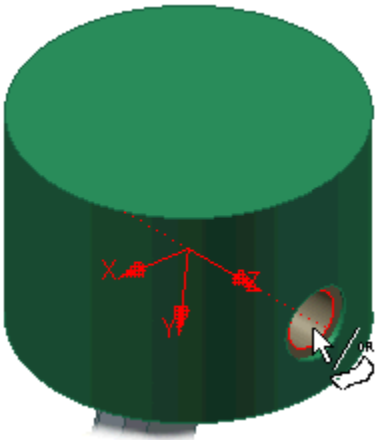

Figure 2: Defining the tweak coordinate system.
2. Click inside the wrist pin to define the tweak coordinate system (see Figure 2).